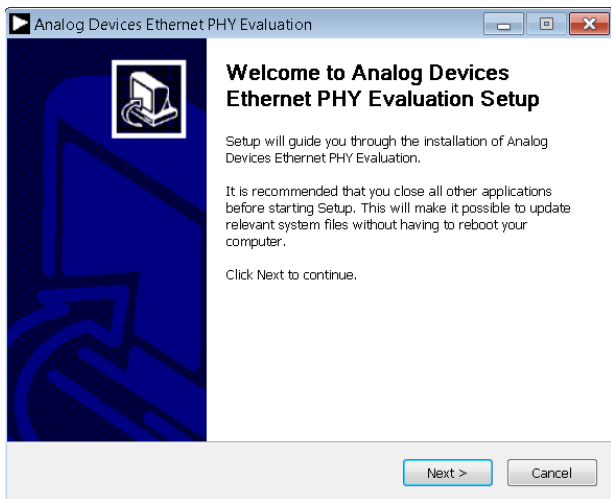

Figure 8. Welcome Window
3. The welcome window appears (see Figure 8). Click **Next**.